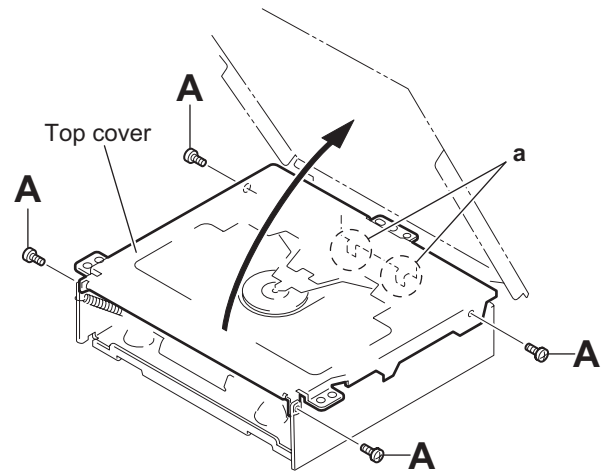

Fig.1
### 3.2.1 Removing the top cover (See Figs.1 and 2)
- (1) From the both side of the CD mechanism assembly, remove the four screws **A** attaching the top cover. (See Fig.1.)
- (2) Lift the front side of the top cover and move the top cover backward to release the two joints **a**. (See Figs.1 and 2.)